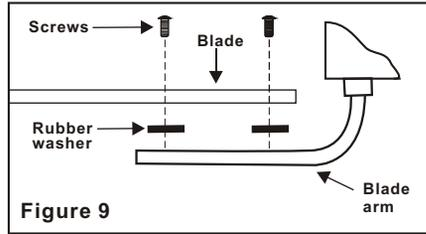

Figure 9
Step 1 Attach blades to blade arms using three screws and rubber washers.(Fig. 9) Start a screw into the blade arm, do not tighten. Repeat for the 2 remaining screws and washers.